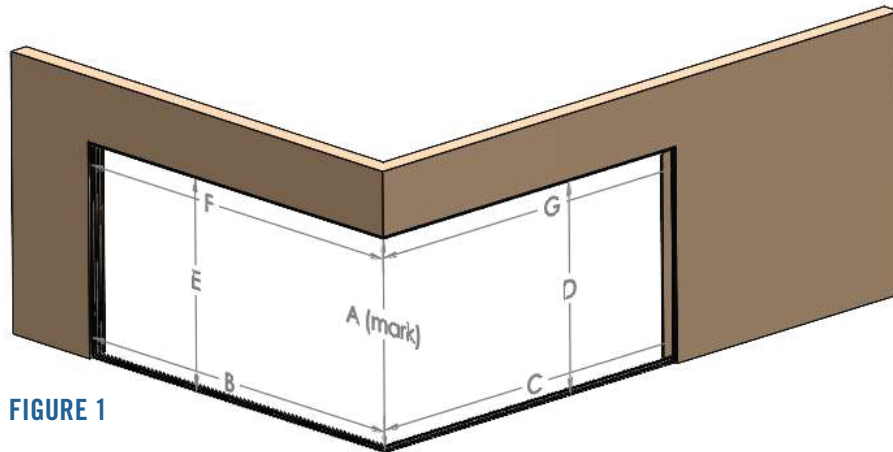

FIGURE 1
9. Join the mitered corners of the head and sill using sealant, 90 degree L-Brackets (Part #12), and screws (Part #30). Start by applying sealant to the mitered faces of the tracks and join components. Note that the brackets are countersunk, so orient them accordingly. There should be one bracket per track. L-brackets should be centered over the thermal break, so that the screws go through the thermal break (Figure 1 & 2).